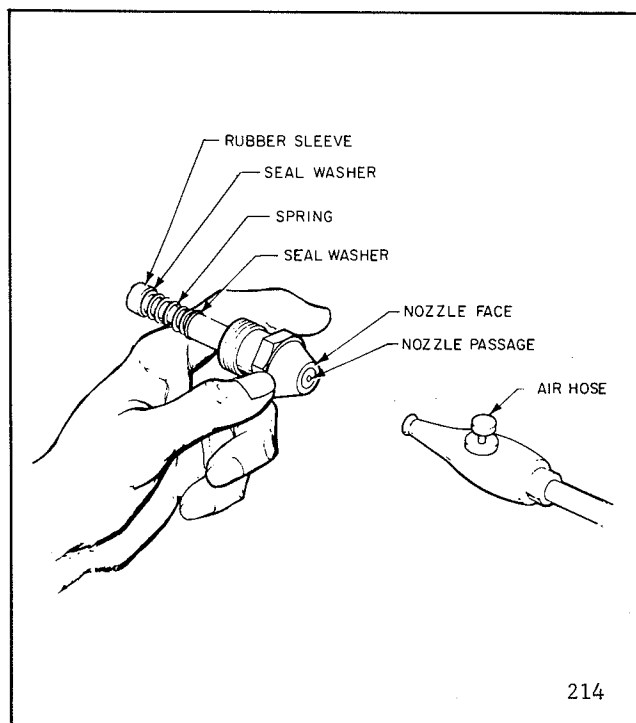

Figure 7. Blowing Out Nozzle
2. Soak the nozzle for one hour in non-flammable liquid cleaning agent. Blow it dry through the face (OUTLET END) only. See Figure 7.